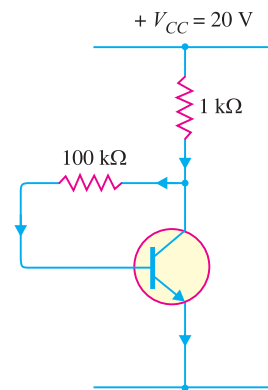

Fig. 9.20
**Example 9.14.** Fig. 9.20 shows a silicon transistor biased by collector feedback resistor method. Determine the operating point. Given that  $\beta = 100$ .